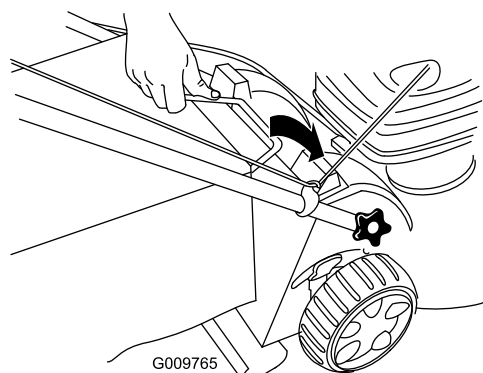

**Figure 21**
1. Install the mulch plug (Figure 21) or the grass bag (Figure 22) on the machine.